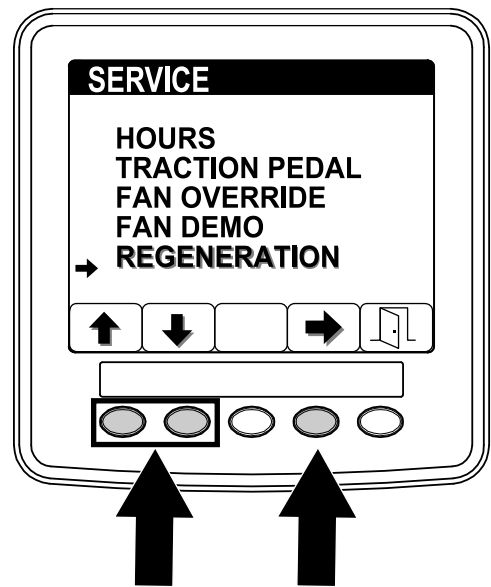

Figure 67
2. On the SERVICE menu, press button 1 or button 2 to navigate to the REGENERATION option, and press button 4 to select the REGENERATION entry (Figure 67).